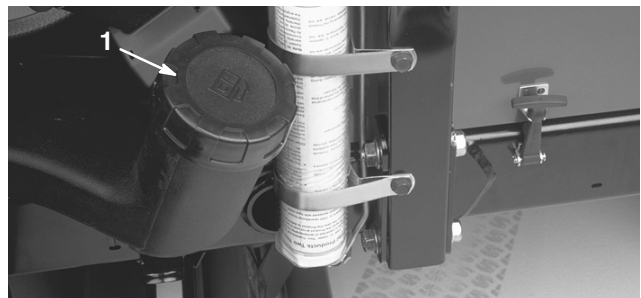

Figure 12
1. Clean the area around the fuel tank cap (Fig. 12).